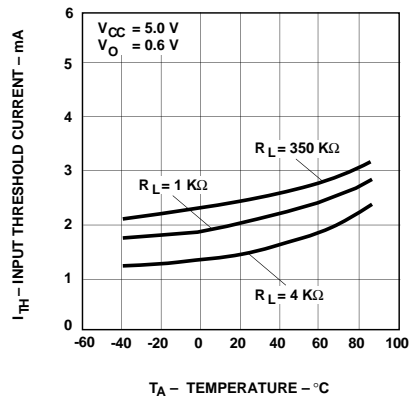

Figure 15. Input Threshold Current vs. Temperature.
- As illustrated in Figure 15 the V_{CC} and GND traces can be located between the input and the output leads to provide additional noise immunity at the compromise of insulation capability.